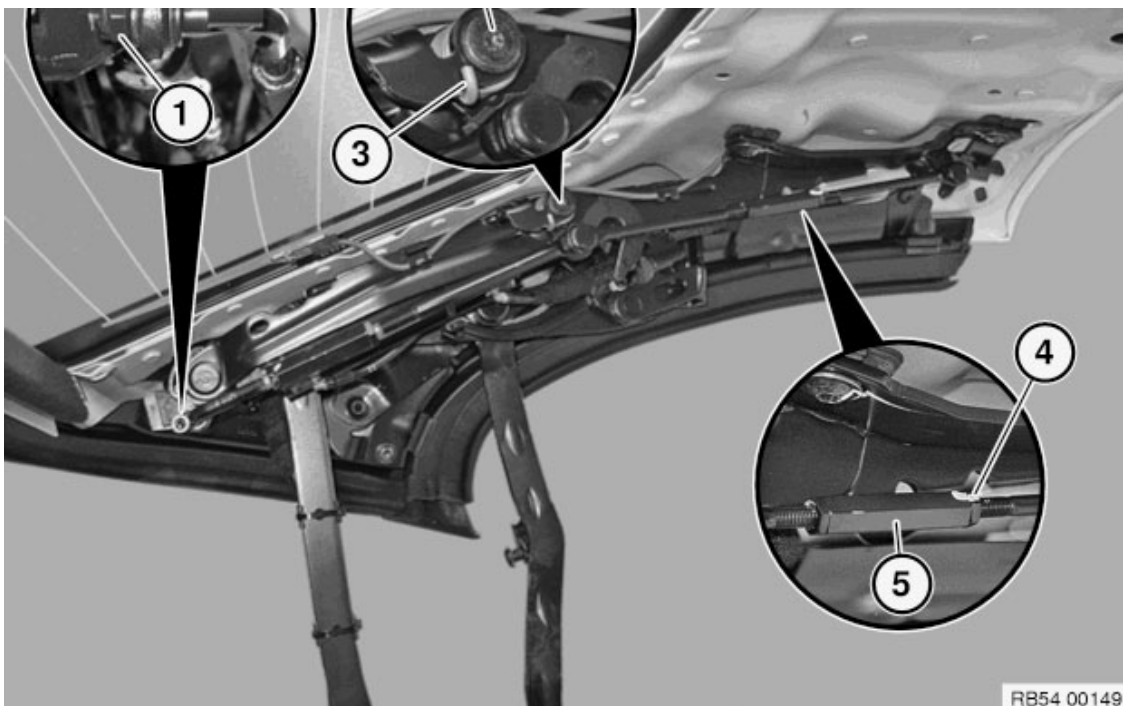

Fig. 37: Identifying Specific Nuts And Bolts Locations
Tighten screw (2). See **Fig. 37**.
Tighten nut (1) with washer. See **Fig. 37**.
Tighten the lock nut (4). See **Fig. 37**.